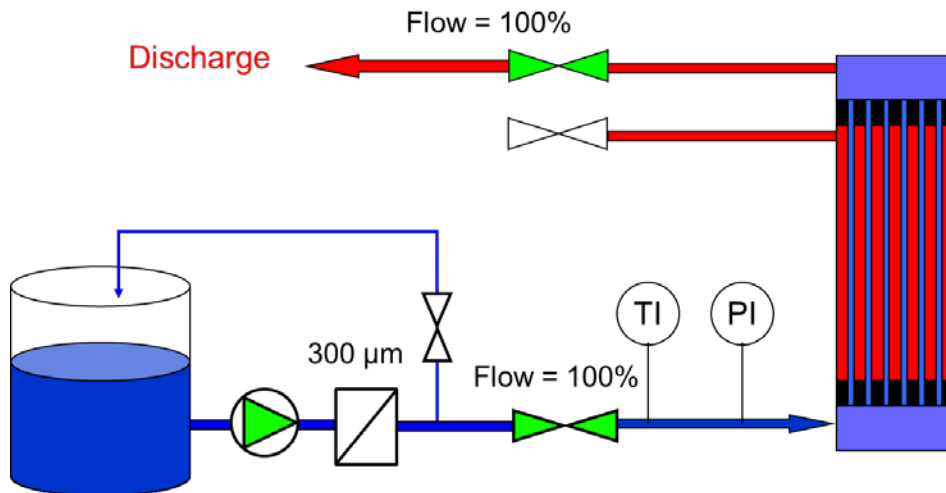

Figure 6-5: Rinsing out the chemicals on the feed side
3. To begin with, the feed side valves of the modules/racks are opened and the cleaning/feed pump is put into operation (Figure 6-5). Set the minimum volume flow rate in accordance with the section "Establishing CIP Circulation". The discharge is collected directly from the system. If required, the chemical solution must be neutralized prior to discharge. Ensure that the discharged solution complies with all the local regulations regarding discharges into the sewage system.